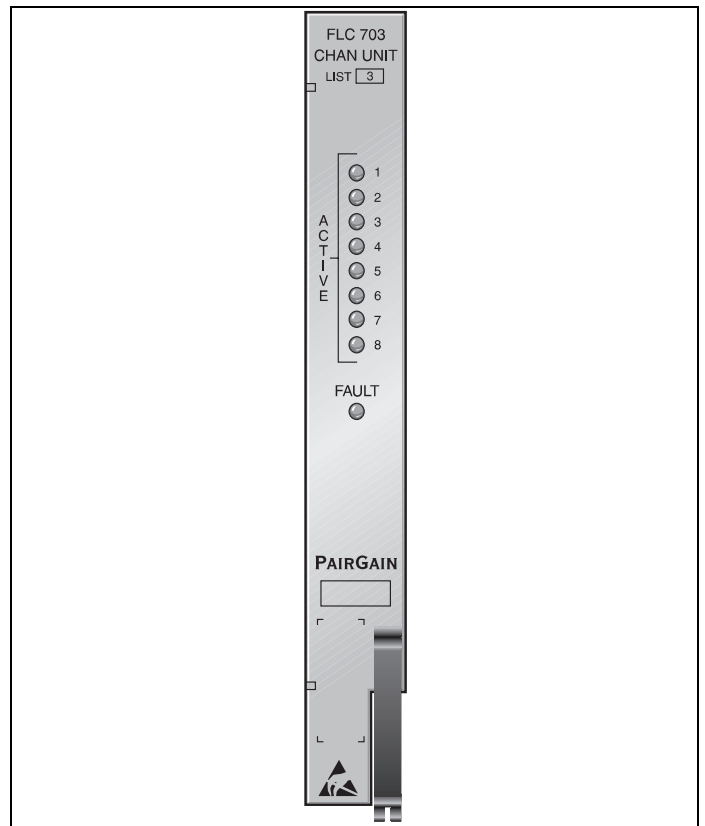

Figure 1. FLC-703 COT Channel Unit Front Panel. The PairGain FLC-703 provides eight POTS interfaces between the Central Office and PG-Flex.
7.01 The front panel of the FLC-703 Channel Unit contains the following indicators (see Figure 1):